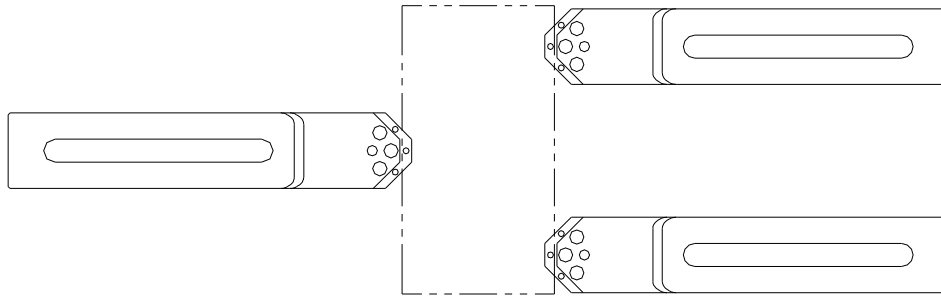

Figure 6
STEP 7. If the work piece is supported exclusively by extendible toe clamps, whenever possible, set the clamps up with two clamps on the corners of one side of the work piece and one clamp in the center of the opposite side of the work piece as shown in Fig. 6.